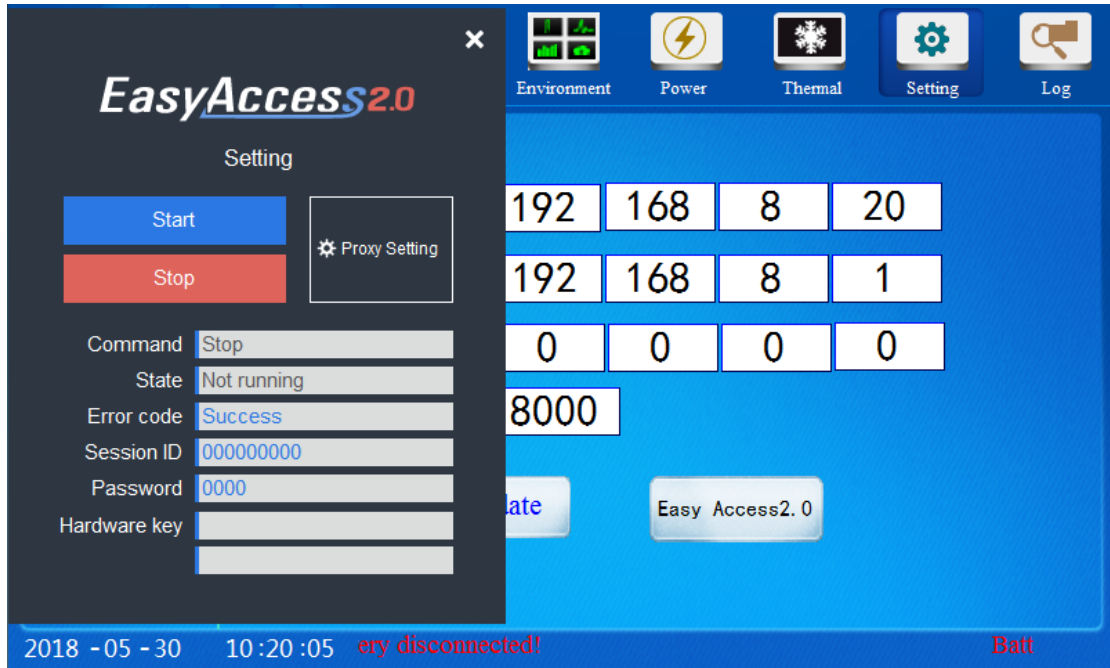

Figure 4-25 EasyAccess2.0 interface
Step 1: Enter the Web setting submenu under the Setting menu of the touch screen; click “Easy Access 2.0” Button, the page shown in Figure 4-25. Then click start, it will show “success” if connect successfully.